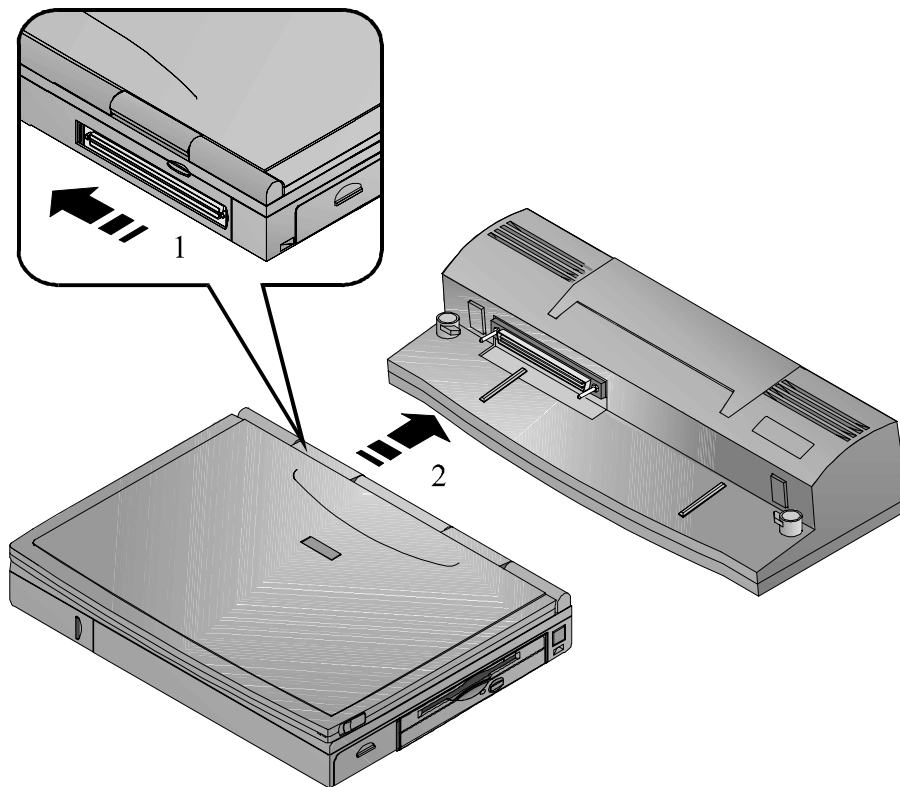
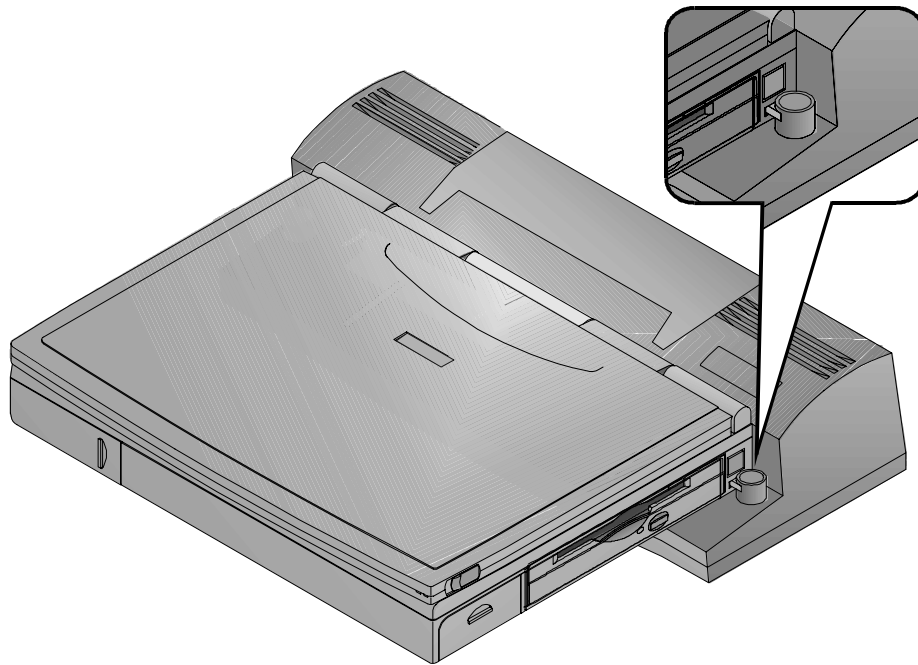

Figure 6-13: Docking the Notebook to the Port Replicator
Figure 6-14: Securing the Notebook to the Port Replicator
You may want to refer to figure 6-13 and figure 6-14 as you read these instructions for a visual guide to docking the notebook to the Minidock Port Replicator.
1. Locate the Minidock's 240-pin port found on the front left side of the Minidock. Find the 240-pinned connector on the rear side of the notebook. It is concealed by a plastic door. Slide the door to the left until it clicks into its open position. (Figure 6-13, step 1)
2. Notice that there is one rail on the left of the docking platform and one on the right. These rails correspond with two grooves on the bottom side of the notebook computer. Place the notebook on the Minidock's docking platform, aligning the rails with the grooves (Figure 6-13, step 2).
3. Gently slide the notebook along the rails on the docking platform until the notebook is secured between the two docking tabs (Figure 6-14). Do not force the connection. Forcing a connection can seriously damage either or both the port and the connector. If you are unable to make a smooth connection, realign the notebook and try again.
2. Dock the notebook to the Port Replicator and then turn on the power. Please refer to figure 6-13, 6-14 and the corresponding instructions to ensure that the notebook is properly docked to the Port Replicator.